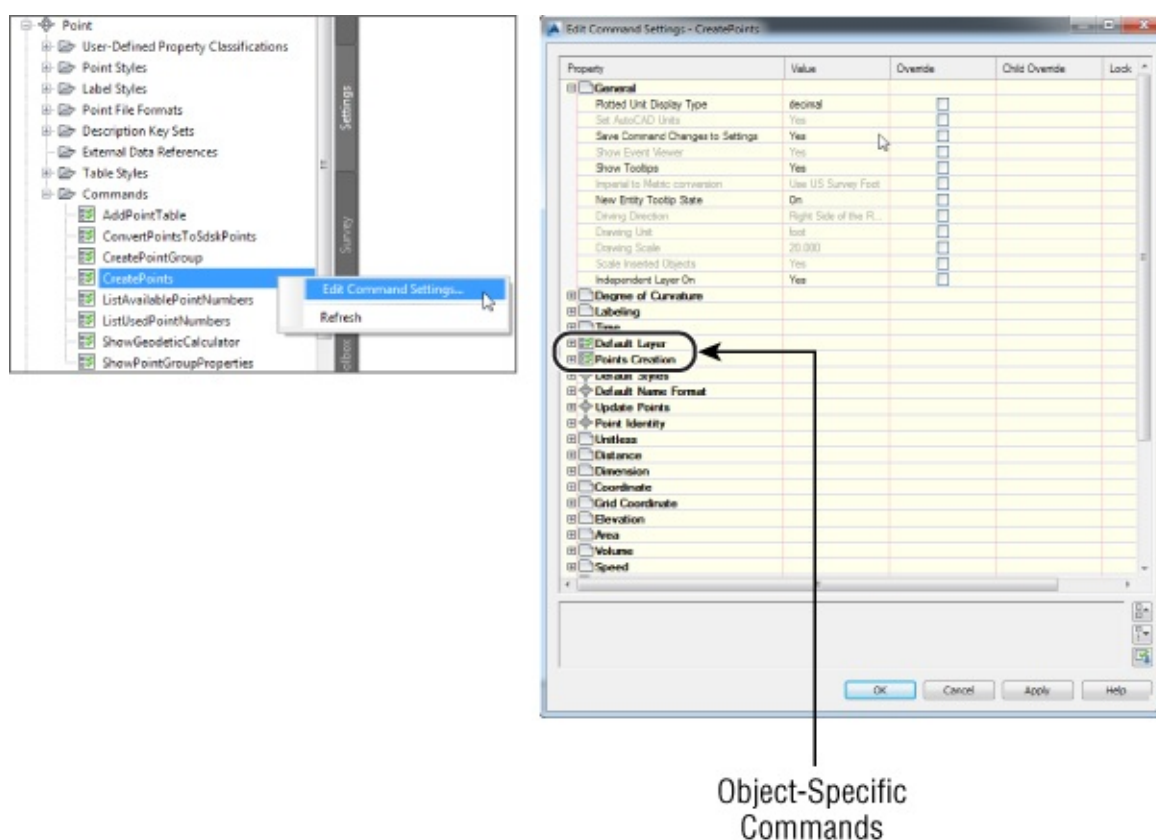

Figure 3.3 In your Civil 3D template, make sure Save Command Changes To Settings is set to Yes for Points.
3. As shown in the first screen in Figure 3.3, right-click the command CreatePoints and select Edit Command Settings.